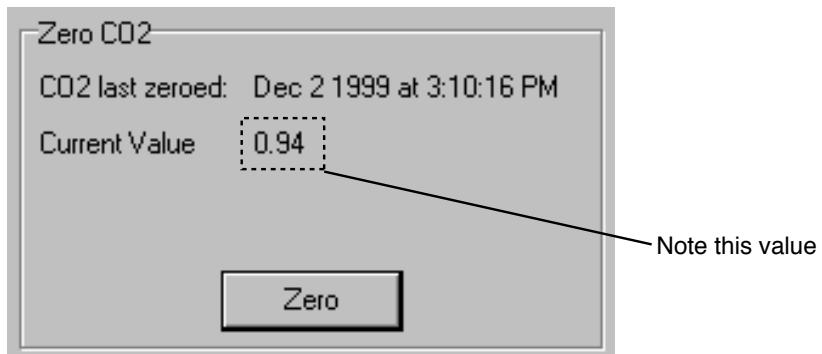

Figure 4-5. Note value of Z_{co} , shown as Current Value.
5. Observe the CO₂ concentration and wait for it to stabilize (typically 1 minute). Also, note the present value of Z_{co} (Figure 4-5).
6. When the reading has stabilized, click **Zero** to set the CO₂ zero. After a brief delay, the displayed CO₂ value should be fluctuating around zero. Check the resultant value of Z_{co} shown on the *Zero CO₂* page (Figure 4-5). It should be near 1 (typically between 0.85 and 1.1). This value will steadily increase as the internal chemicals lose effectiveness.